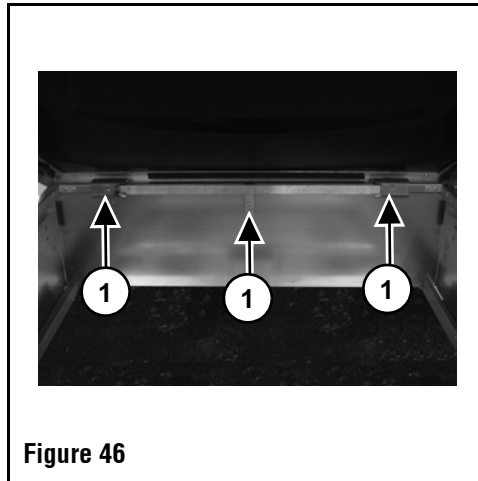

Figure 46
8. Check the canopy hinge bolts (Item 1) for looseness. Check hinge for damage and security. **(Figure 46)**